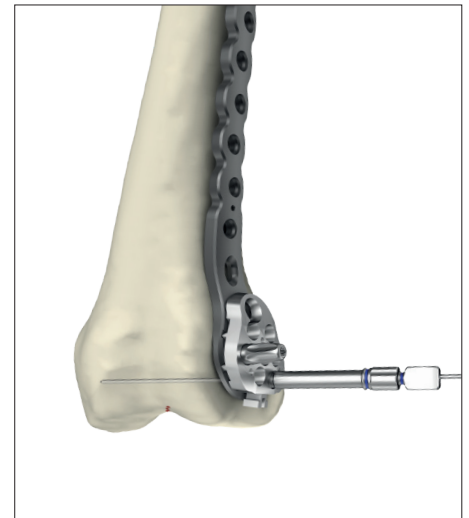

Fig. 23
Consideration must be taken when positioning non-locking screws to ensure that they do not interfere with the given locking screw trajectories (fig. 23, 24). Those trajectories may be visualized using K-wires (ref 705002) inserted through a K-wire/locking drill sleeve assembly (ref 705041 in ref 705042) (fig. 23).